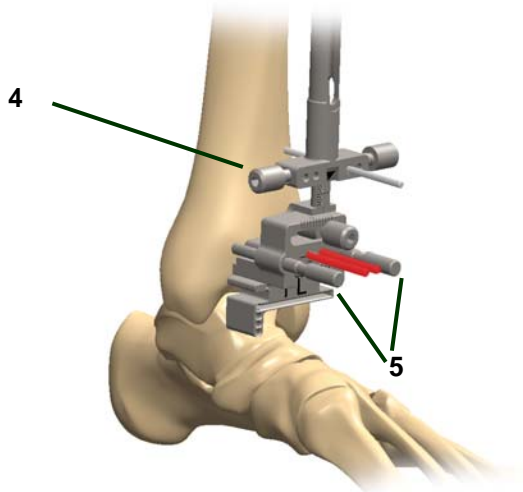
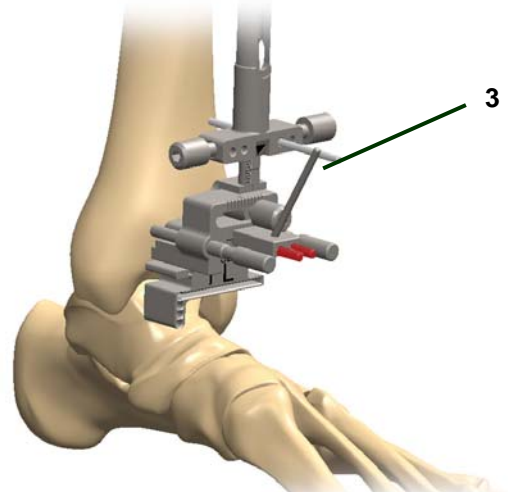
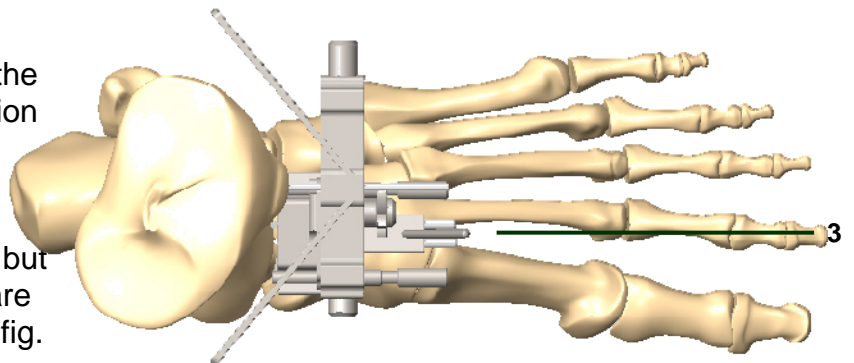

figure 6
figure 7
figure 8
Push two fixation pins in the marked level (2) of the slope block but do not fasten these pins into the bone yet (fig. 6). Attach the talar alignment guide (3) on the fixation pins (fig. 7). Control the alignment with the help of the attached talar alignment guide. It should be aligned on the second metatarsale (fig. 8) to meet the center of the talar. If necessary adjust the rotation by releasing the screw (4) and readjusting on the adjustment screws (5).
Notice: For better understanding all fixation pins placed for the adjustment but not fixed in the bone at that moment, are presented in **RED** colour (for example fig. 6).